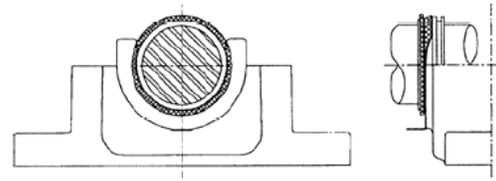

Figure 4b
7. Locate the bearing and seal assembly into the housing base (Figure 4b). Make sure the seal assembly turns freely in the base by rotating shaft. See bearing mounting instructions for proper grease fill of bearing insert and housing.